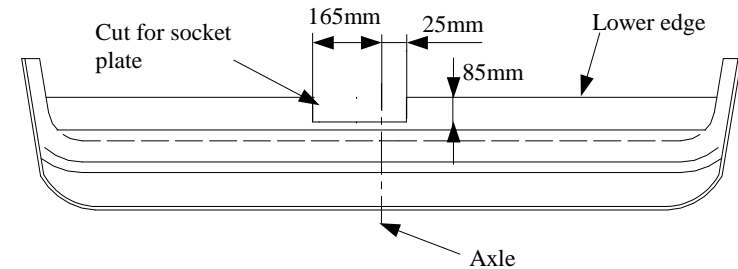

Fig. 2 Bumper cut out (top view)
3. Slide the bar (pos. 1) into the chassis and then fix with M10x40mm bolts (pos. 6) with big washers $\varnothing 35 \times \varnothing 12 \times 3 \text{mm}$ (pos. 7) from the towbar accessories.
5. Position the ball of towbar fix with M12x75mm bolts (pos. 5) from the towbar accessories.
6. Fix the socket plate (pos. 3) as showed on the drawing.
7. Cut the bumper according to figure 2 and mount it to the car.